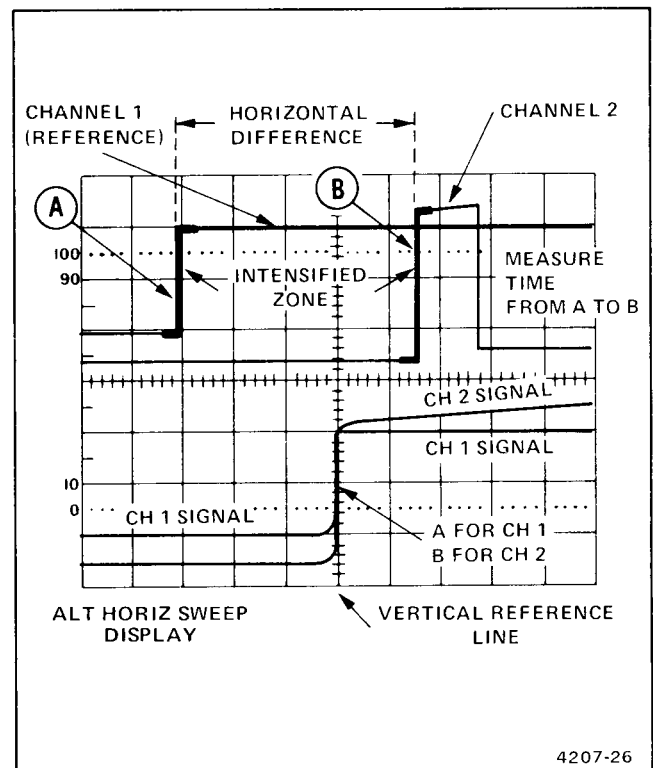

Figure 4-16. Time difference between two time-related pulses, differential time method.
7. Rotate the B DELAY TIME POSITION control to move the intensified zone to the rising edge of the reference pulse (on the A trace); then fine adjust until the rising portion (on the B trace) is centered at any convenient vertical graticule line (see Figure 4-16, point A).
trace) to the same vertical reference point as used in preceding step 7 (see Figure 4-16, Point B). Observe the A trace to position the intensified zone to the correct pulse (if more than one pulse is displayed). Do not change the setting of the Horizontal POSITION control.